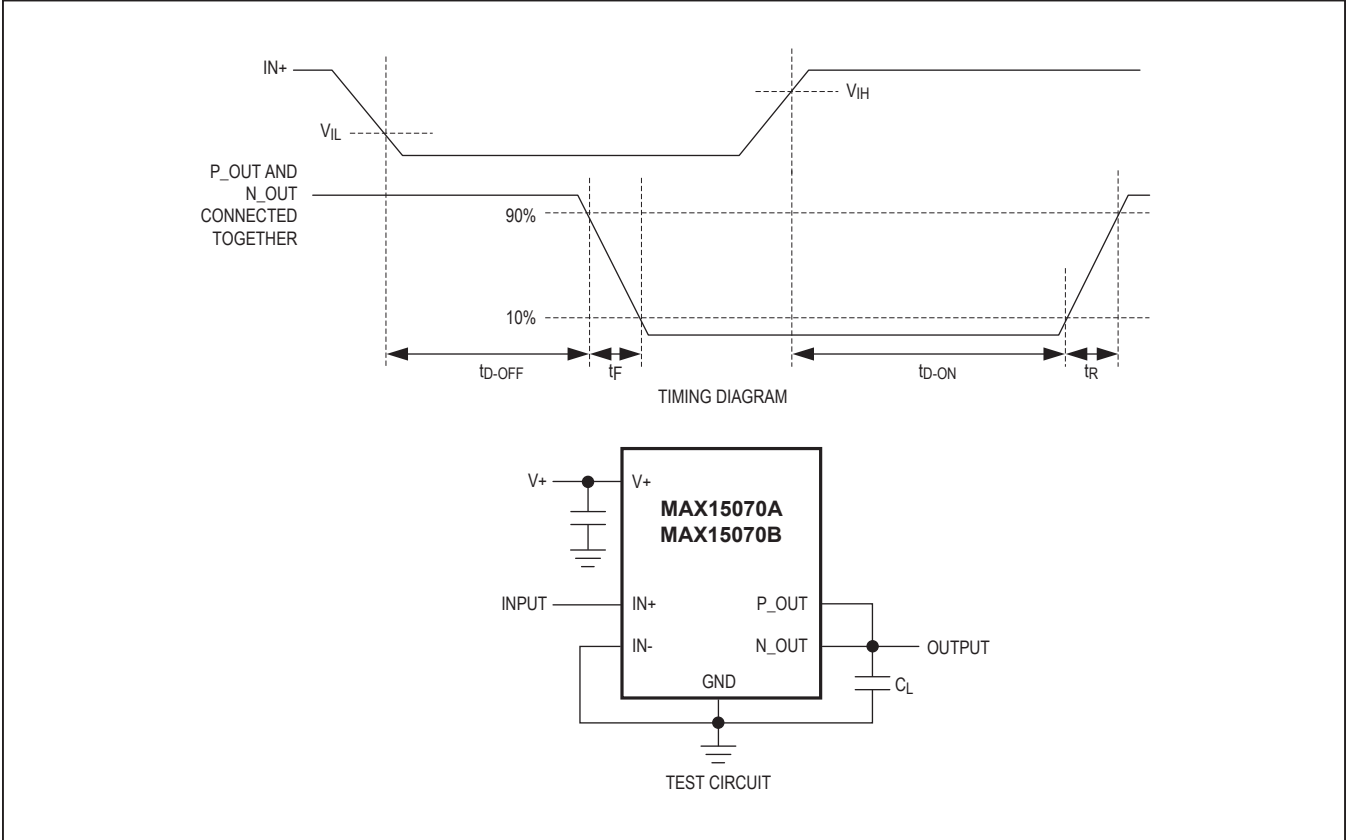

Figure 1. Timing Diagram and Test Circuit
(V+ = +12V, CL = 0F, TA = TJ = -40°C to +125°C, unless otherwise noted. Typical values are at TA = +25°C. Parameters specified at V+ = +4.5V apply to the MAX15070A only; see Figure 1.) (Note 2)
SWITCHING CHARACTERISTICS FOR V+ = +12V (Figure 1)
SWITCHING CHARACTERISTICS FOR V+ = +4.5V (MAX15070A only) (Figure 1)
( $C_L = 1000\text{pF}$ ,  $T_A = +25^\circ\text{C}$ , unless otherwise noted. See Figure 1.)
**Typical Operating Characteristics (continued)**(CL = 1000pF, TA = +25°C, unless otherwise noted. See Figure 1.)**INPUT VOLTAGE vs. OUTPUT VOLTAGE**